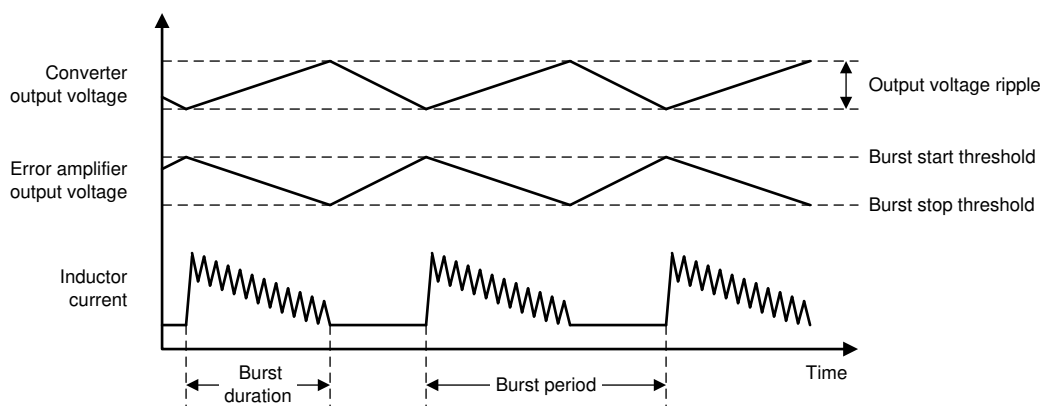

Figure 13. Pulse-Frequency Modulation
- During PFM operation, the device switches in bursts of a few switching cycles, separated by periods when the device does not switch (see Figure 13). PFM operation increases efficiency at low output currents because when the device does not switch, there are no switching losses and most of the internal circuitry is disabled, which reduces quiescent power consumption. A comparator with hysteresis compares the output voltage of the error amplifier to a predefined PFM threshold voltage. When the output voltage of the error amplifier is greater than the burst threshold voltage, the device starts switching. When the output voltage of the error amplifier is less than the burst threshold voltage, the device stops switching. This scheme automatically adjusts the frequency and the duration of the switching bursts to regulate the output voltage. During PFM operation, the output voltage ripple can be higher and the transient response is not as good as during PWM operation (see Table 1).